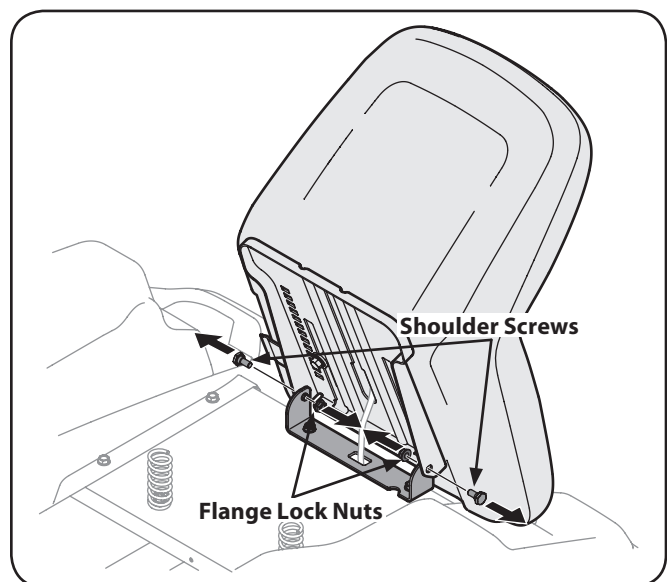

Figure 3-5
3. Rotate the seat into position and secure the seat into place with the previously removed shoulder bolts and flange locknuts. Be careful not to crimp or damage the wire harness while installing the seat. See Figure 3-5.